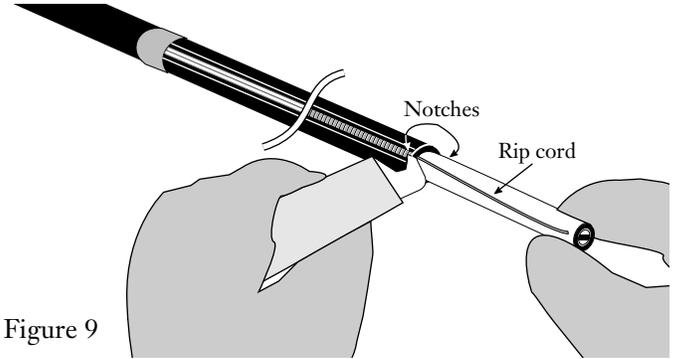

Figure 9
4.10 At the end of the cable use the hook blade to make small notches in the armor at the two points exposed by the removed metallic rods (Figure 9).